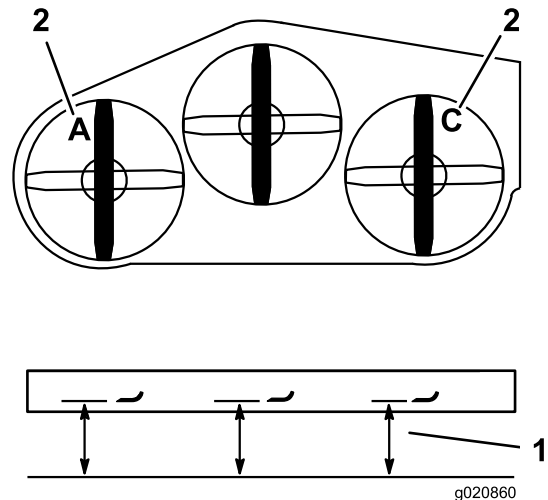

Figure 85
3. Measure the left blade at the **A** location, from a level surface to the cutting edge of the blade tip and record this measurement (Figure 85).
4. Measure the right blade at the **C** location, from a level surface to the cutting edge of the blade tip and record this measurement (Figure 85).
3. Measure the right blade at location **C**, from a level surface to the cutting edge of the blade tip and record this measurement (Figure 85).